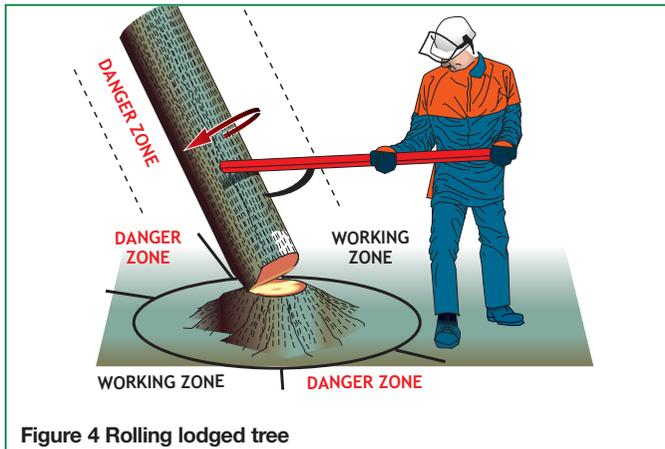

Figure 4 Rolling lodged tree
- 28 When rolling lodged trees use a pushing movement. Maximum leverage and muscular effort is obtained by keeping the lever between waist and chest height. Stay outside the danger zone (see Figure 4).